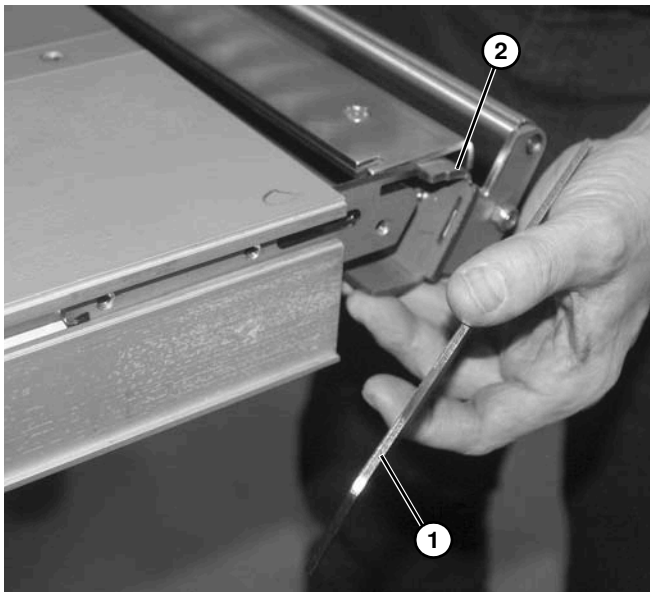

Figure 79
3. Remove side plate (**Figure 79, item 1**) from nosebar tail (**Figure 79, item 2**).